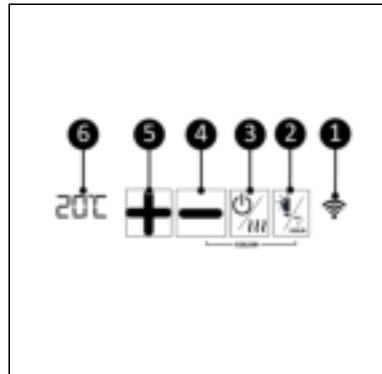

Figure 21.
2. Push the ON/OFF heating switch (Figure 21, pos. 3) to activate the heater.
3. The display (Figure 21, pos. 6) will light up, showing the ambient temperature.
4. Press the Plus or Minus buttons (Figure 21, pos. 4 and 5) to set the desired temperature, from 0 °C to 37 °C. The device starts heating when the set temperature is higher than the ambient temperature.
1. Shortly push the Light button (Figure 21, pos. 2) to activate the LED light.
2. Push and hold the Light button (Figure 21, pos. 2) to change the LED light level.
- Press and hold the Light button (Figure 21, pos. 2)
1. Make sure the heater function and the light function are switched OFF (Figure 21, pos. 2 and 3).